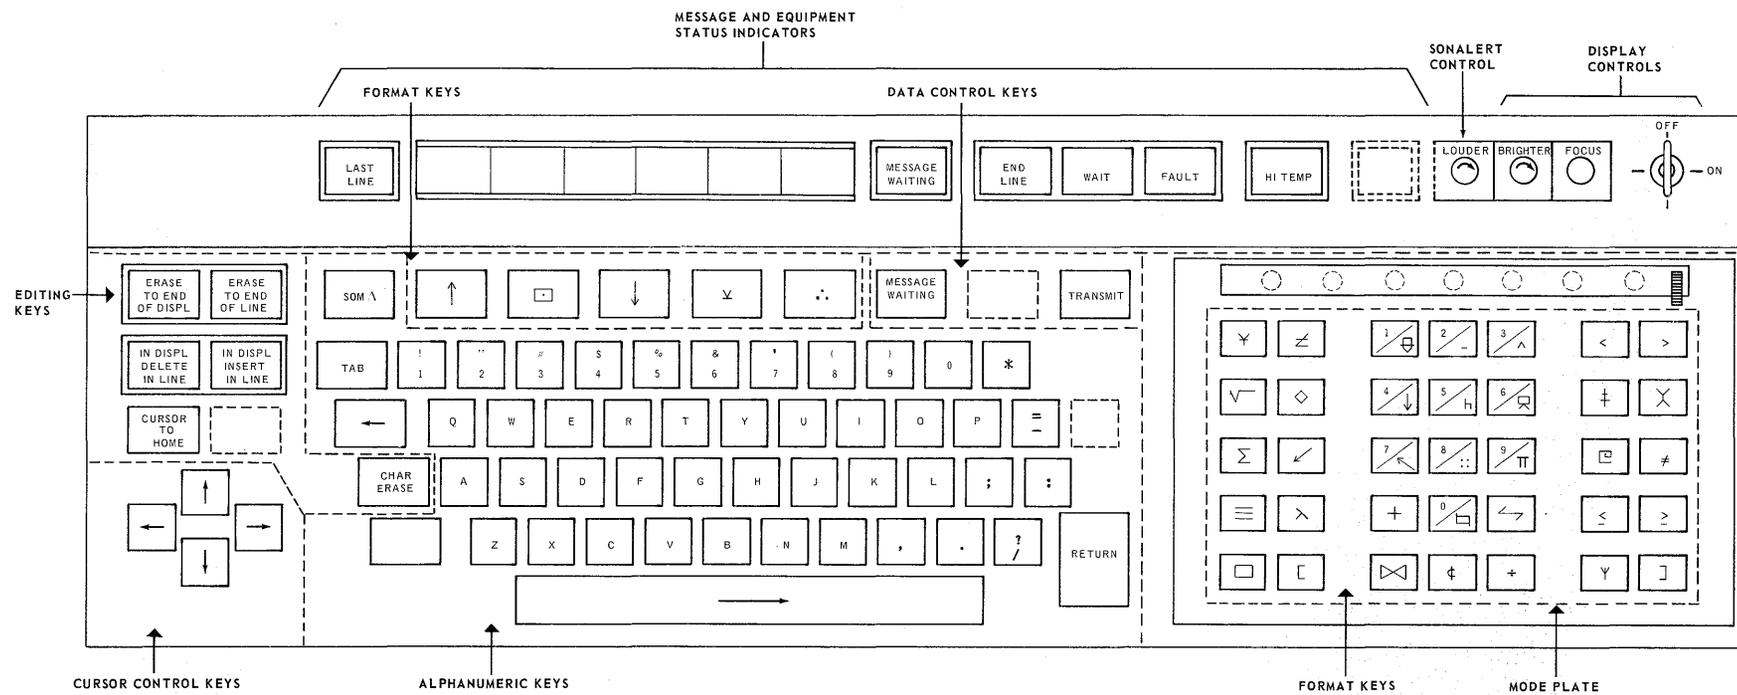

Figure 3-1. Keyboard/Control Panel
- with a total of 40 format keys (35 additional keys) as shown in Figure 3-1 (Feature Number F0926-03).
The Keyboard/Control Panel, as shown in Figure 3-1, is located on the lower front of the SSU and MSU display units and consists of keys, controls, and indicators. Key shape, key travel, and touch pressure are similar to those of a standard electric typewriter. Typing speeds in excess of 80 words per minute can be achieved. The keys, controls and indicators are grouped according to the following functions:
<p>The alphanumeric keys, with the exception of four keys, are essentially the same as those keys on a standard electric typewriter keyboard. The alphanumeric keys are used for composing messages for input to the processor. As each key is pressed, the alphabetic or numeric character etched on the top of the key is displayed on the CRT. (The blank key located next to the Z key is the uppercase key.) The special keys which are the exception to the standard keyboard are illustrated in Figure 3-1 and described below.</p>